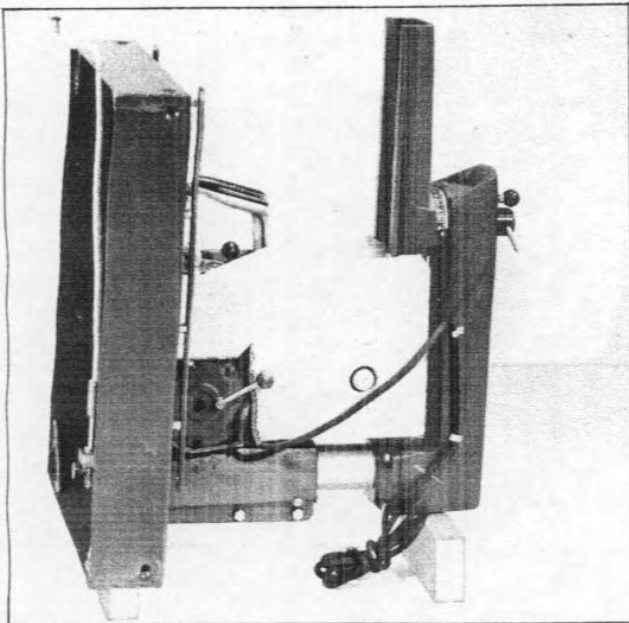

Fig. 3
2. Tilt the saw on its back with the 12" long 2 x 4 under the base and the 8" long 2 x 4 under the overarm, as shown in Fig. 3.